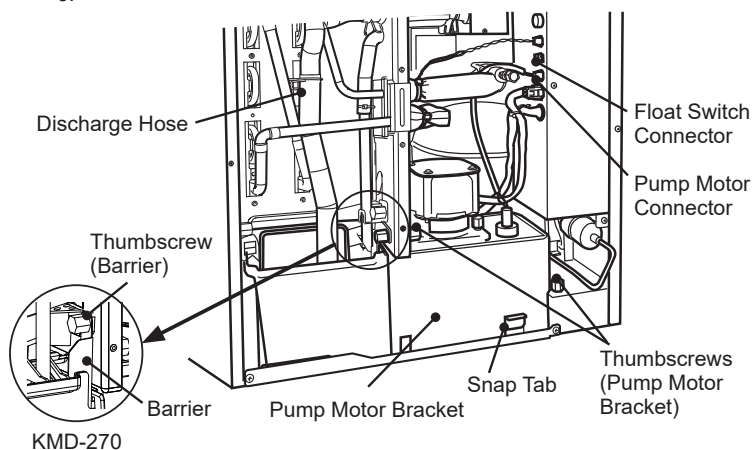

Fig. 3
- 2) Loosen the two thumbscrews securing the pump motor bracket. For KMD-270, loosen the thumbscrew and remove the barrier. See Fig. 3.
Be sure to let the discharge hose pass behind the copper tube and connect it securely in position. See Fig. 3. Otherwise, the discharge hose may be caught in the front insulation, leading to improper results.